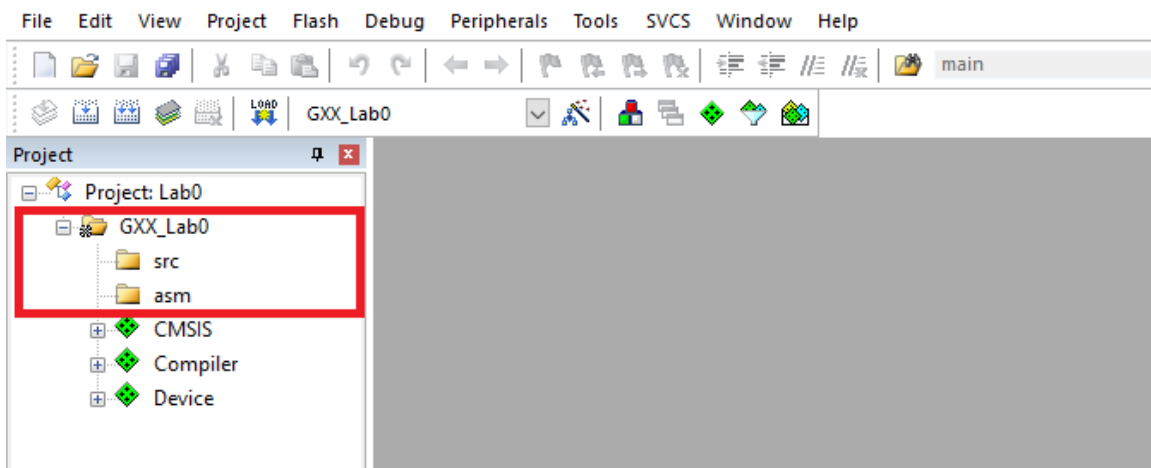

Figure 8: Rename the groups and the target.
7. We also have the option of renaming *Target 1*, *Source Group 1* and *New Group* as shown in Figure 8 (by *s l o w l y* left clicking on the name twice). Let's go ahead and rename them.